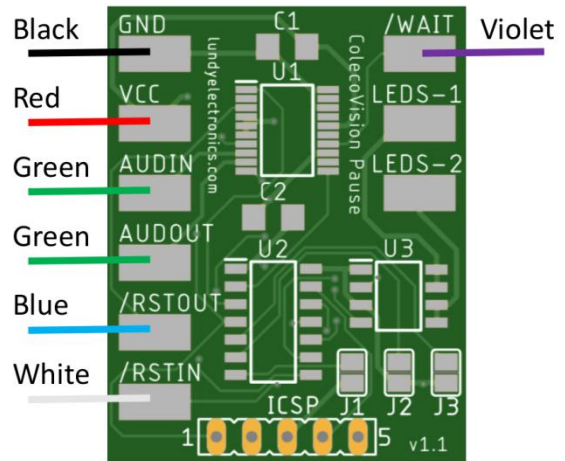

Figure 8a: Main wiring harness diagram
Step 3: Flip the ColecoVision PCB to show the top side on the PCB. Cleanly trim, strip, and solder main wiring harness to the Pause Mod PCB as follows. See **Figures 8a and 8b**.
Note: Picture may vary depending on PCB version. Reference Figure 8a for current version.